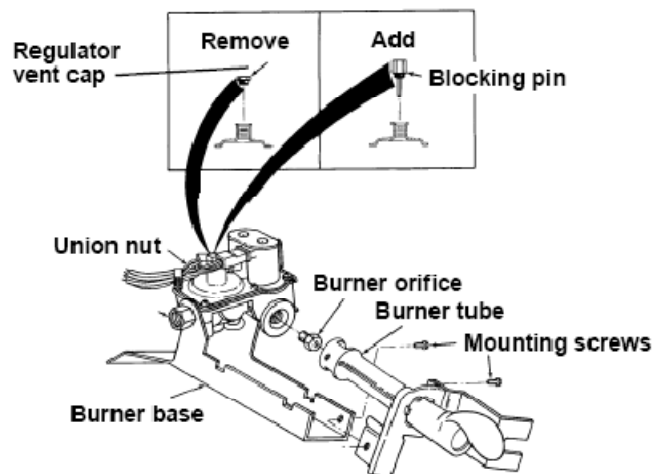

FIGURE 4
11. Remove the burner tube from the burner assembly by removing two (2) screws securing it to the burner base. See *Figure 4*.
12. Remove the burner orifice from the valve and replace it with the proper orifice furnished in this kit. Orifice number is stamped on one edge of the hex head of orifice. Securely tighten. See *Figure 4*.
15. Remove the regulator vent cap (leak limiting device) from the pressure regulator. See *Figure 4*.
16. Install the new blocking pin finger-tight. Do not tighten more than 1/8 turn to seal it. See *Figure 4*.
- Check that the regulator vent cap has been replaced by the blocking pin as in *Figure 4*. (Style "A" application only)